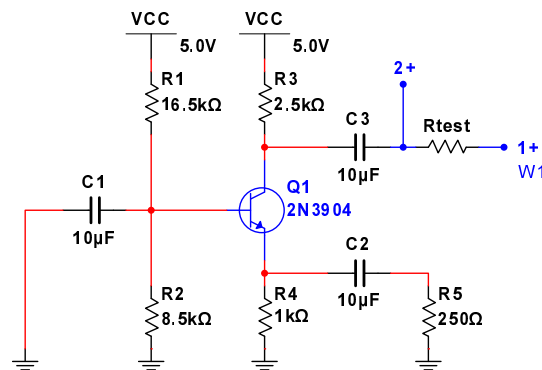

Figure 18: Amplifier setup for output resistance measurement
- Insert a test resistor (R_{test}) that is close to the calculated value of the output resistance R_o as in Fig. 18
- Connect $W1$, 1+ and 2+ as shown in Fig. 18, 1-, 2-, ↓ to ground